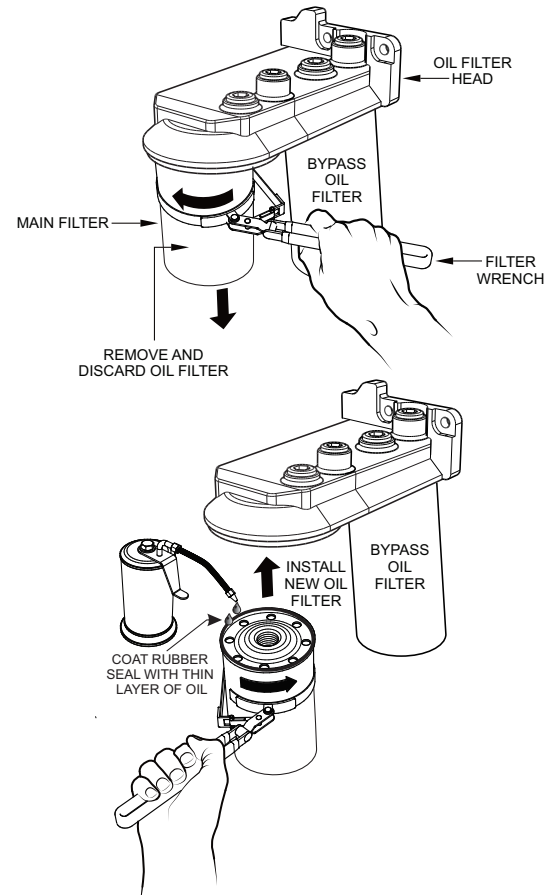

Figure 57. Engine Oil Filter Replacement
1. Clean the area around the **oil filter head** (Figure 57).
2. Using an **oil filter wrench**, remove the **engine oil filter** (Figure 57).
3. Coat the rubber seal (gasket) surface of the new oil filter with clean 15W-40 engine oil (Figure 57).